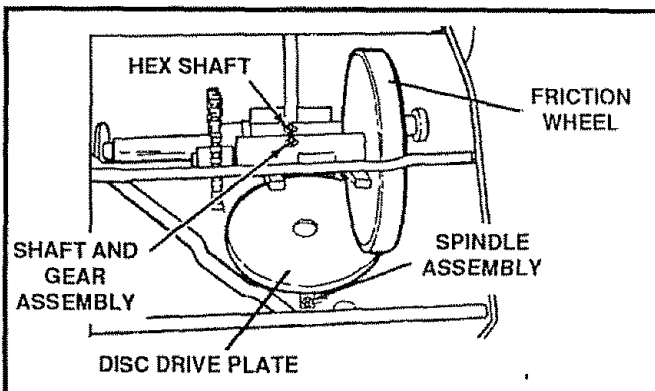

FIG. 20
- Hex Shaft and Gears - Hex shaft and gears require no lubrication. All bearings and bushings are lubricated for lifetime and require no maintenance (See Fig. 20).